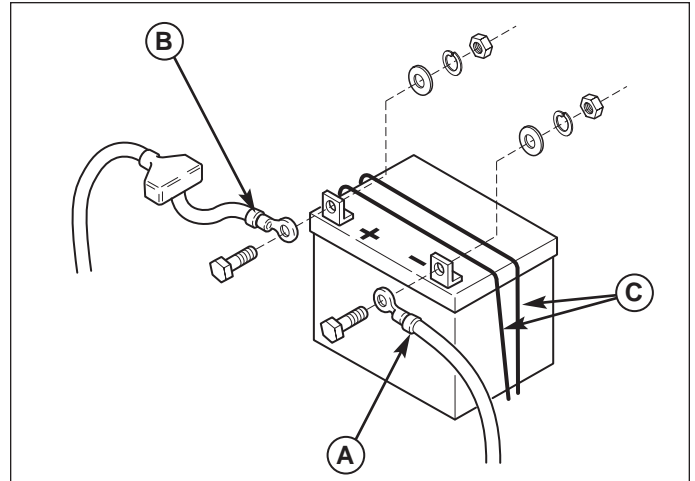

Figure 11. Battery
1. Disconnect the cables from the battery, negative cable first (A, Figure 11).
2. Remove the battery hold-down (C) and battery.
5. Reinstall the battery in the battery compartment, and secure with the battery hold-down (C).
6. Reattach the battery cables, positive cable first (B).